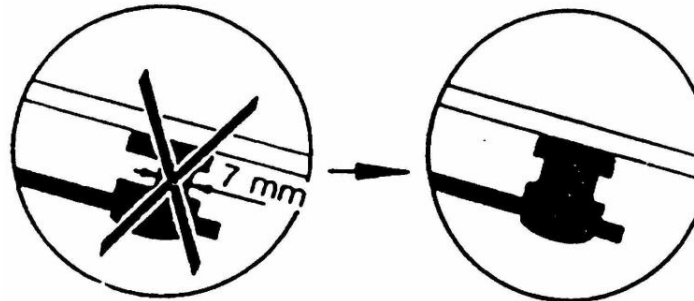

Fig. 7. Minimal thickness of the knife-holder pin.
- Regularly control the condition of the knife-holder pins. When the pin wears out halfway absolutely replace the knife-holders (Fig.7.).